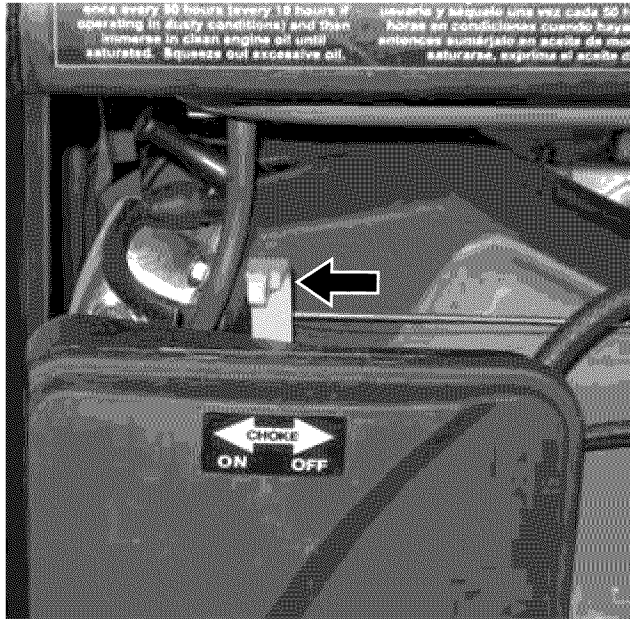

Figure 28 – Choke Lever
4. Move the choke lever to the **ON** position (see *Figure 28*).